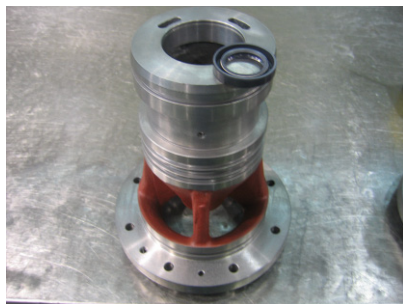

Fig.2 Assembly of oil seal (오일씰 조립 방법)
2. The oil seal which has a groove on the upper direction is mounted on pump housing by tool as shown in Fig.2.